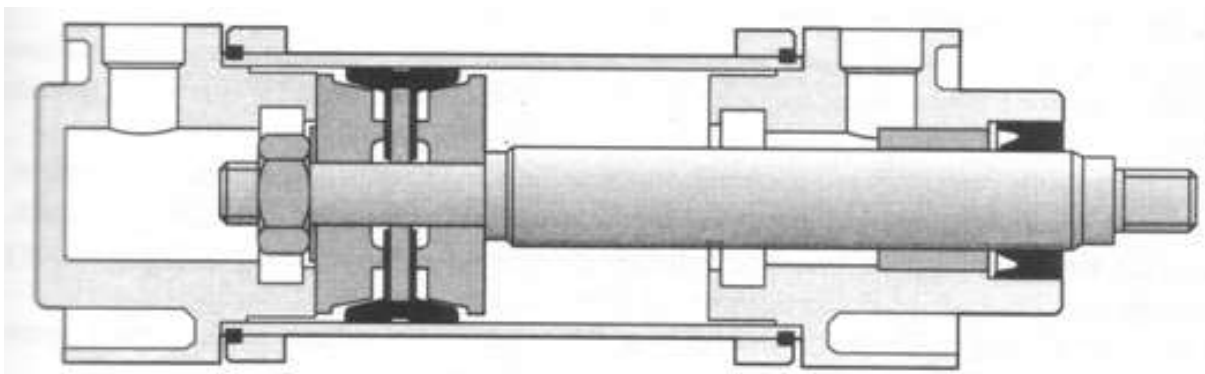

Figure A.3. Cross section of a double acting cylinder
2. Double acting cylinders. Here, a force can be induced in both extending and retracting directions by air pressure applied to either side of the cylinder. A cross section of a typical double acting cylinder is shown in Figure A.3.